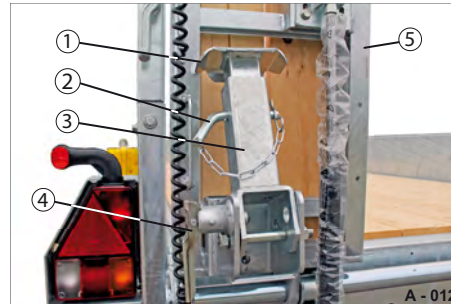
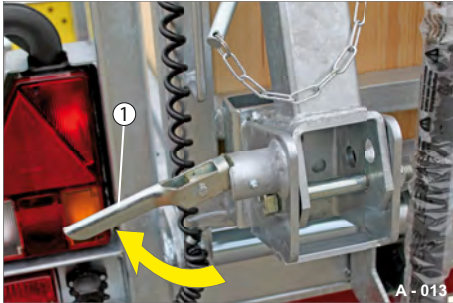

Fig. 2 Folding support in drive position
Fig. 3 Folding out the folding support
- ▶ Pull on the spring bar (Fig. 3/1). The folding support (Fig. 2/3) is unlocked.